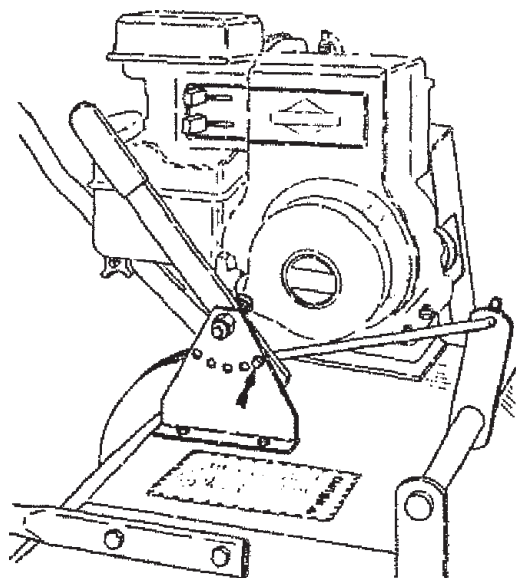

FIGURE 1
1. Position height adjustment lever to the start/transport position. (Figure 1)